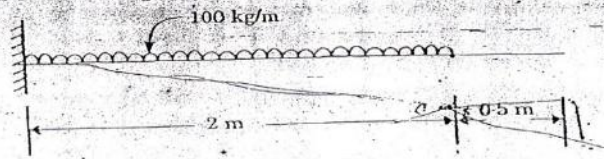

Figure 2-2
- (b) Determine the slope and deflection at the free end of the cantilever loaded as shown in Figure 2-2. Take $I = 10,000 \text{ cm}^4$ and $E = 2.1 \times 10^6 \text{ kg/cm}^2$. 15